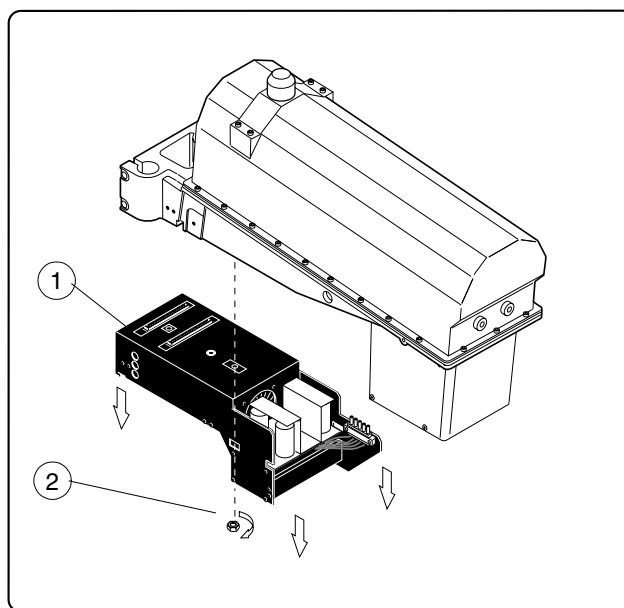

Figure H.19
- c) Support the power supply (Fig. H.19, 1) with the other hand while removing the nut (Fig. H.19, 2).